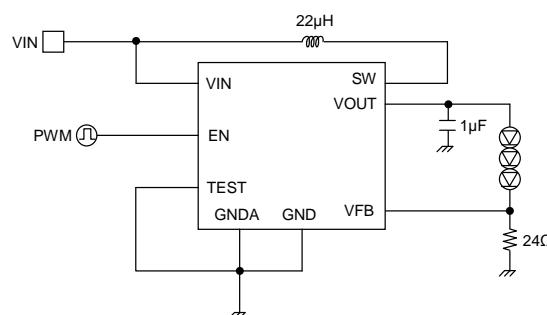

Figure 17. The brightness adjustment example of EN terminal by PWM (fPWM = 100Hz ~ 300Hz)
1) PWM brightness adjustment is made by giving PWM signal to EN as shown in Figure 17.